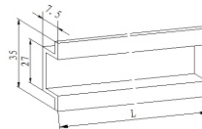
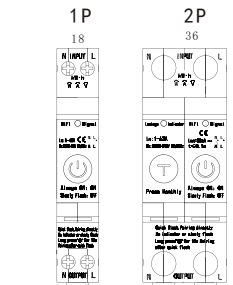

fig 2
fig 1
- 6.1 The outline dimension drawing and the installation dimension drawing are shown in Fig. 1 and Fig. 2
10.4 As shown in figure 2, the circuit breaker according to the requirements of the correct wiring and electrification, to circuit breaker signal indicator light.